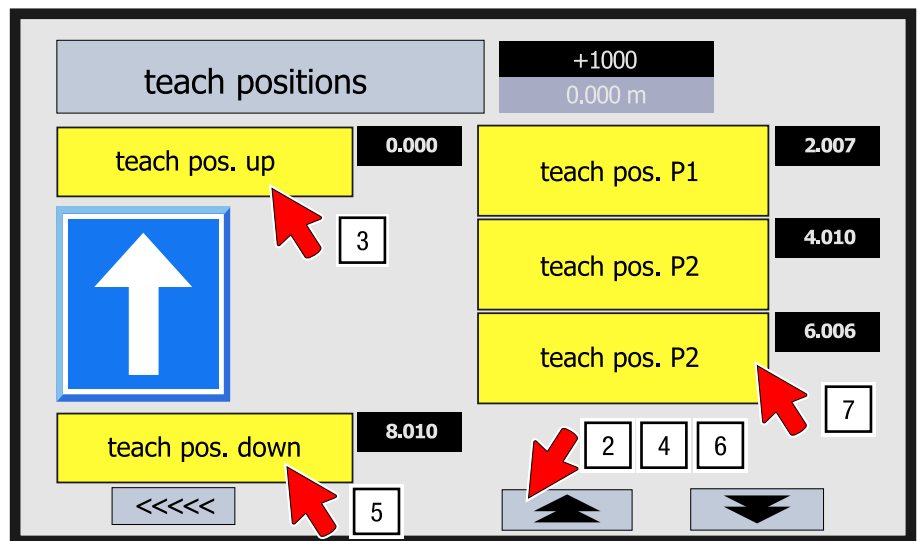

Fig. 47: Teach Positions menu – Operational limit switches and intermediate positions
3. This takes you to the “Teach Positions” menu, where you can program intermediate positions via the software (see Fig. 47).
4. Move to the target position for the upper operational limit by adjusting the position using the F3 key (up) and F4 key (down) (see Fig. 47).
- ⇒ The direction of travel is shown as a blue arrow during movement (see Fig. 47).
5. Press the “Teach Top Pos.” button (see Fig. 47).
6. Move to the target position for the lower operational limit by adjusting the position using the F3-key (up) and F4-key (down) (see Fig. 47).
7. Then press the “Teach Pos. bottom” button (see Fig. 47).
8. Move to the target intermediate position by positioning using the F3 key (up) and F4 key (down) (see Fig. 47).
9. Press the “Teach Pos P1 to P3” button and save the target positions (see Fig. 47).